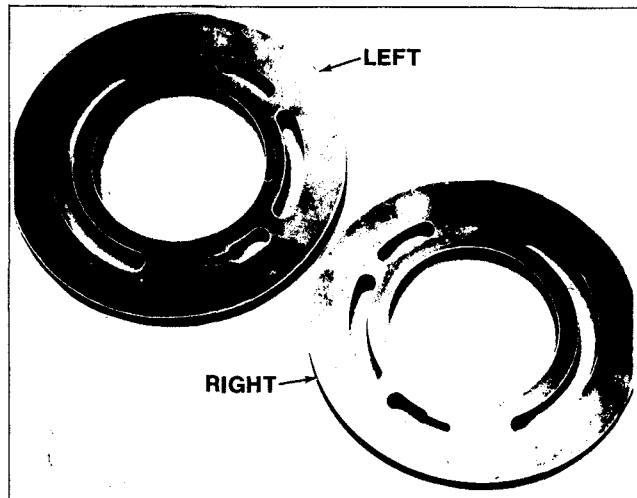

Figure 22. Wafer plates showing right and left hand.
2. Assemble wafer plate (28) over the bearing race (pins on the PVE12) and locating pin (29) with wear surface away from valve block (26). Determine from the model code which wafer plate is used. See Figure 22.